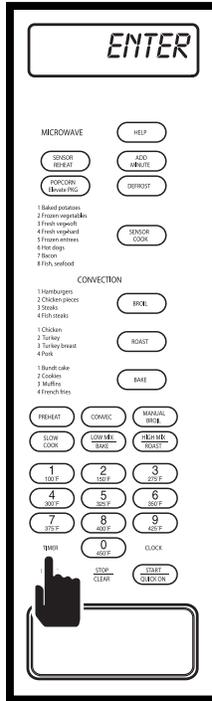

Figure 3-25.
1. Press the TIMER key and "ENTER - TIME " will flash on display (See Figure 3-25).